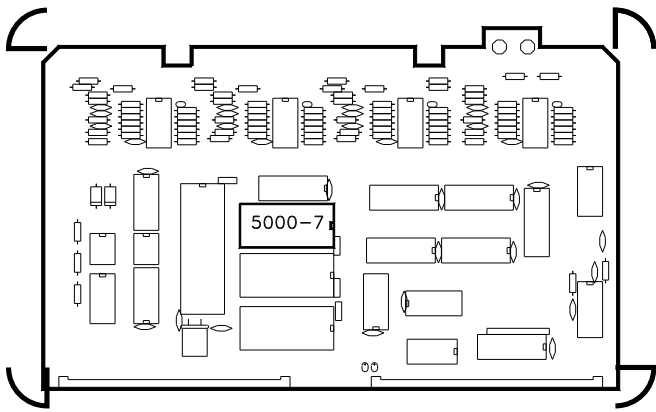

Figure A.9: OmniLink 5000 Die Protection Module Circuit Board
- ◆ Using Figure A.9, locate chip 5000-7 and remove it.